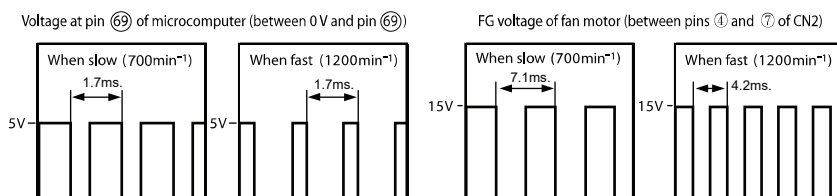

Fig. 3-2
- The VS receives a command voltage from the microcomputer. The VS terminal undergoes an analog voltage that matches the Lo level time ratio of the pulse signal from pin(69) of the microcomputer. (See Fig. 3-2.)